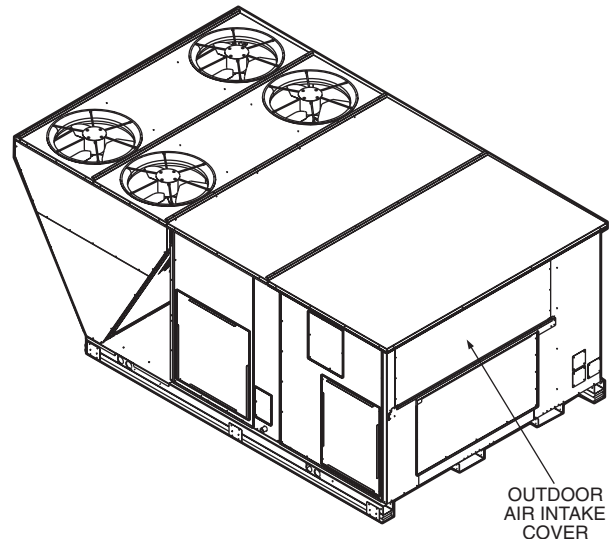

Fig. 3 — Outdoor Air Intake Cover
- c. For units with no outdoor air option installed, remove the outdoor air intake cover. See Fig. 3.